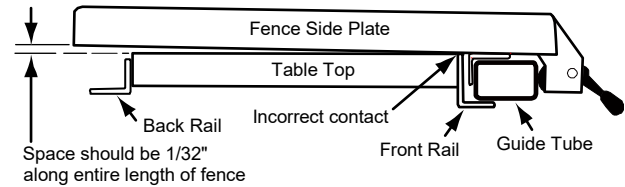

Figure 6-14
1. Figure 6-14 shows a fence where misalignment of side plates has occurred; the side plates are in contact with front edge of saw table.